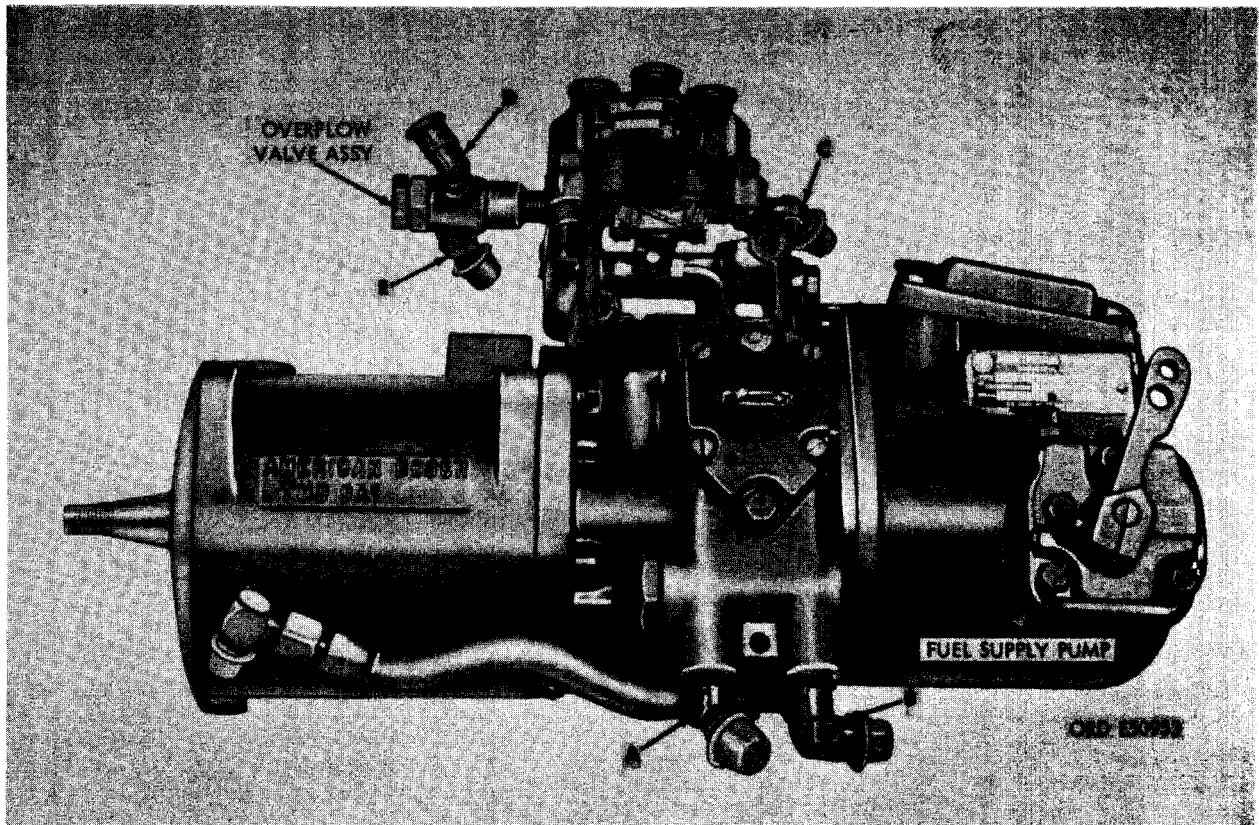
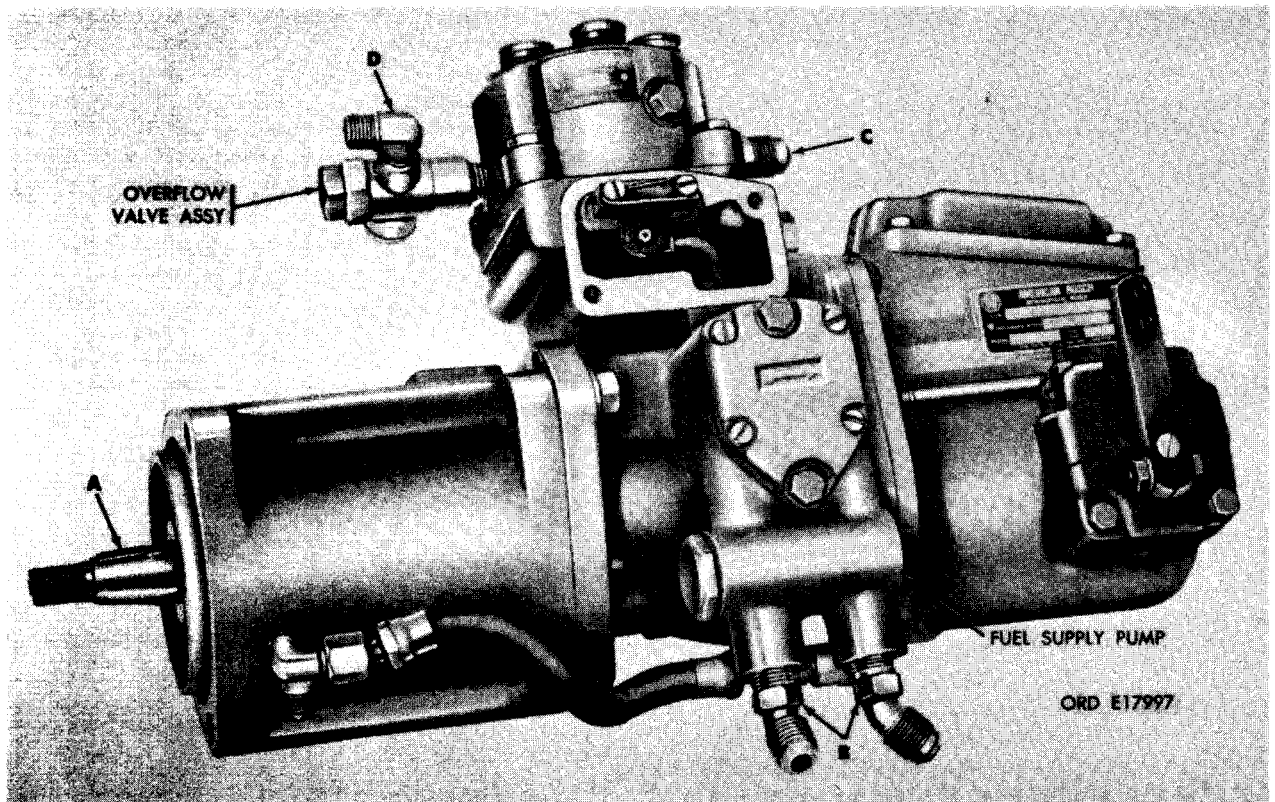

FIGURE 74. REMOVING OR INSTALLING PUMP FITTINGS (LATE MODEL ENGINES).
FIGURE 75. REMOVING OR INSTALLING PUMP FITTINGS (EARLY MODEL ENGINES).
Note. When installing plain nut on shaft the nut must be torque tightened. For early model injection pumps equipped with a Woodruff key in shaft (fig. 75) torque tighten nut to torque of 50 pound feet. Late model injection pumps do not have a Woodruff key (fig. 74) and nut must be torque tightened to 70 pound feet.
(21) Figure 74. (A) Remove 3/8 tube x 1/4 pipe, 45 degree elbow from fuel inlet port in fuel supply pump. (B) Remove 3/8 tube x 1/4 pipe, 90 degree elbow from fuel outlet port in fuel supply pump. (C) Remove 3/8 tube x 1/4 pipe, 45 degree elbow from fuel injection pump assembly. (D) Remove 1/4 tube x 1/8 pipe, 90 degree elbow from overflow valve assembly. (E) Remove 3/8 tube x 1/4 pipe, 45 degree elbow from overflow valve assembly.
(22) Figure 75. (A) Wrap tape around fuel injection pump automatic advance unit shaft to prevent Woodruff key from
- (2) Install fuel tube or hose elbows and connector. Refer to figures 74 and 75 and reverse the sequence of instructions to install tube and hose elbows and connector.